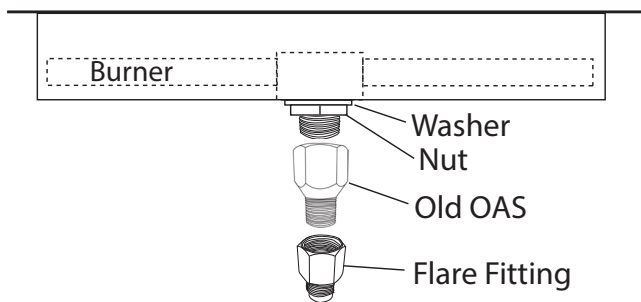

Fig. 1 Removing old OAS
6. Remove the 1/2" NPT Female to Male flared fitting from the old OAS (See Fig. 1).